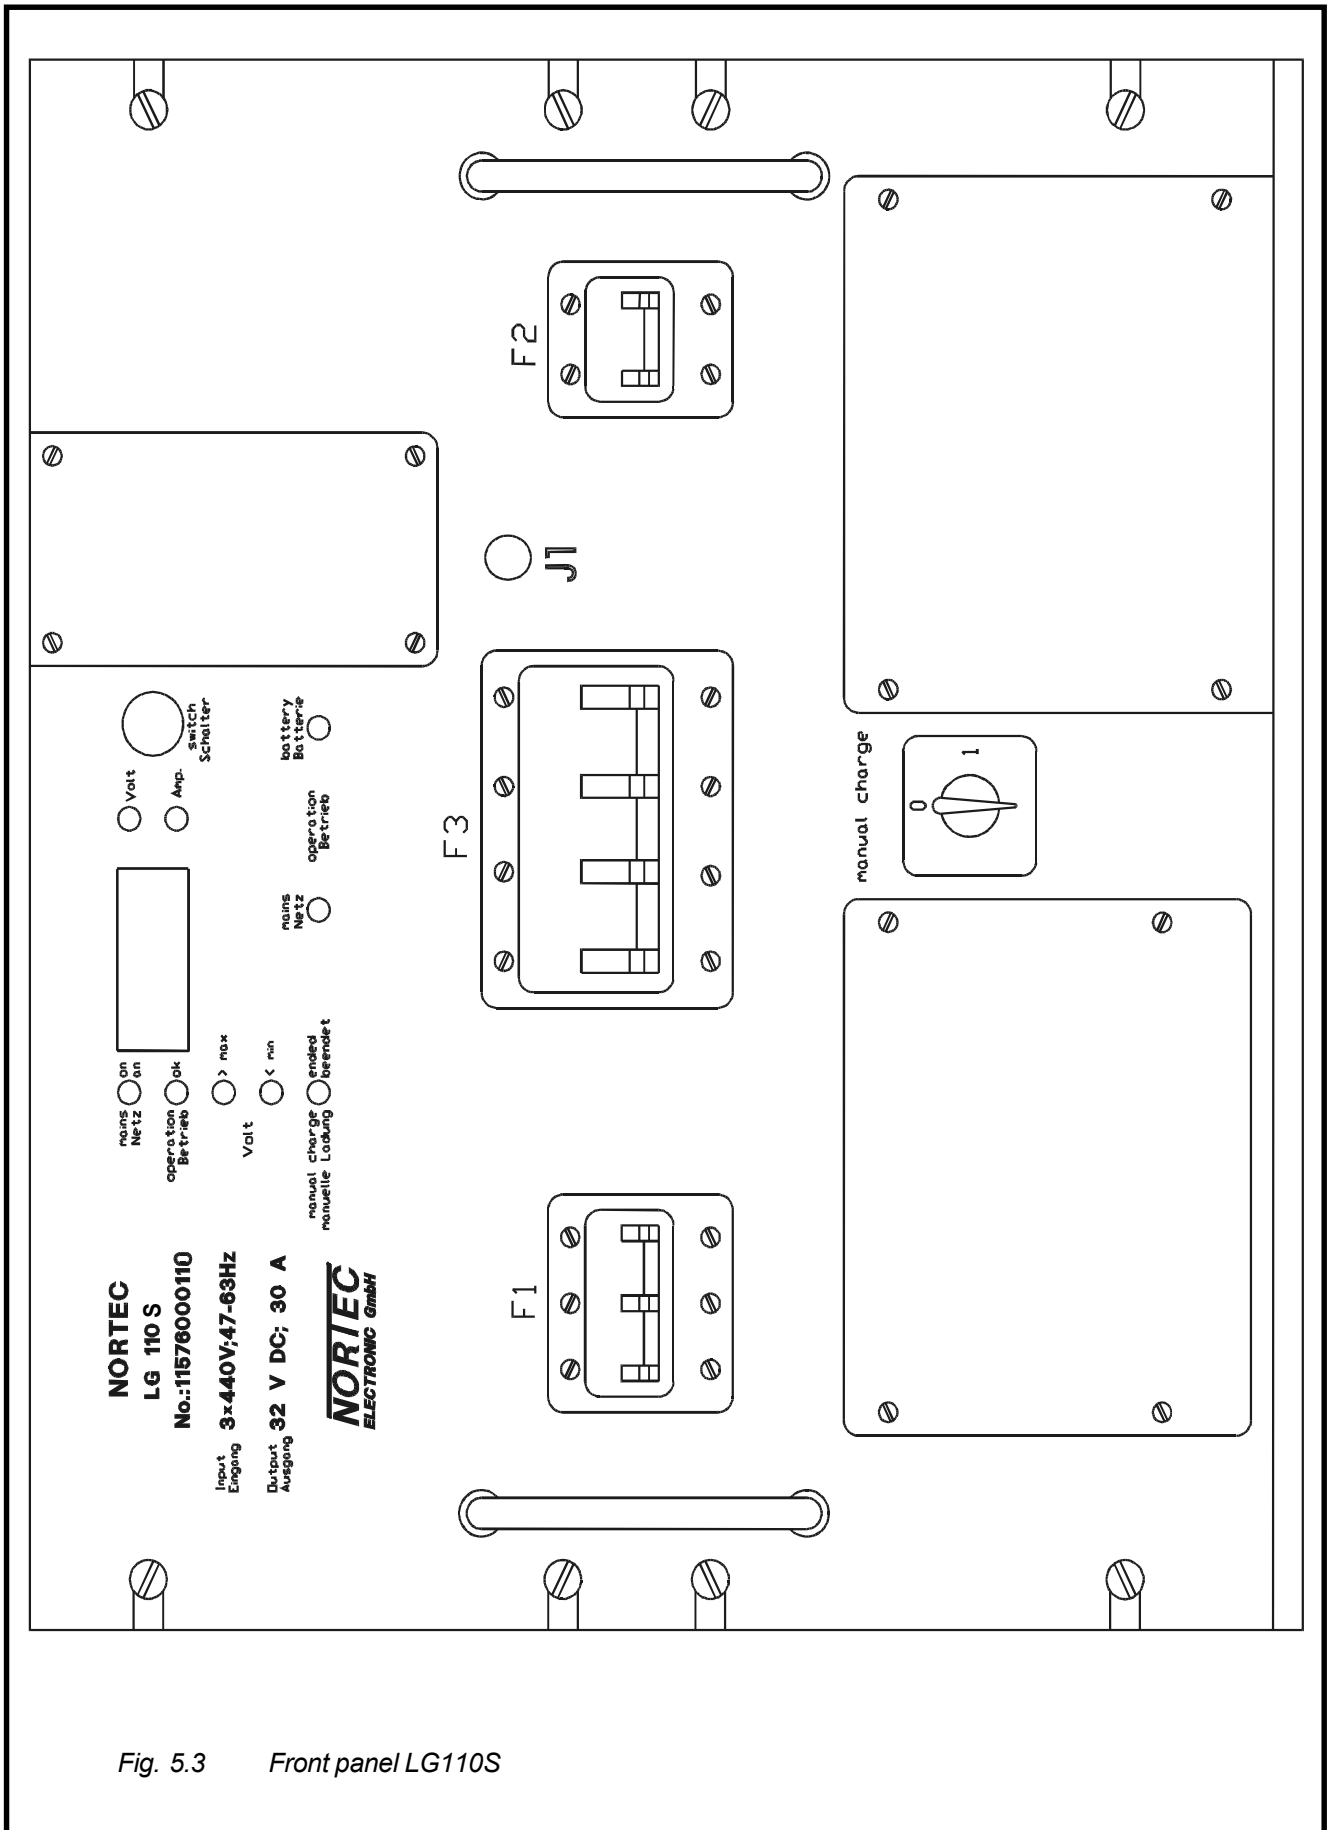

Fig. 5.3 Front panel LG110S
5.2 Operating and display elements (Fig. 5.3)
- Circuit breaker at the charging output (DC)
- Circuit breaker reset switch (DC)